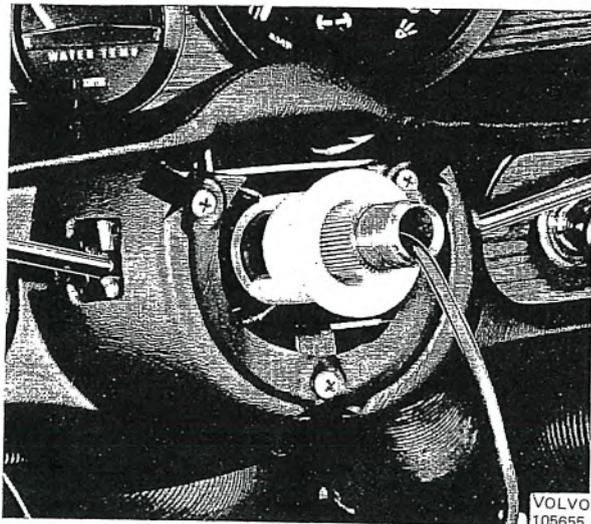

Fig. 3-100. Removing directional indicator lever switch casing
2. Unscrew the screws securing the casing over the switch, see Fig. 3-100.